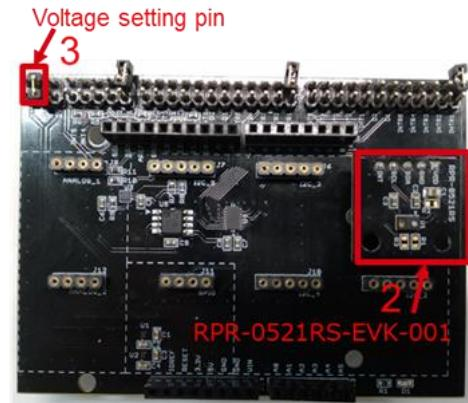

Figure 2. Connection between RPR-0521RS-EVK-001
on the SensorShield (Figure 2)
3. Set Voltage of the SensorShield to 3.0V (Figure 2)